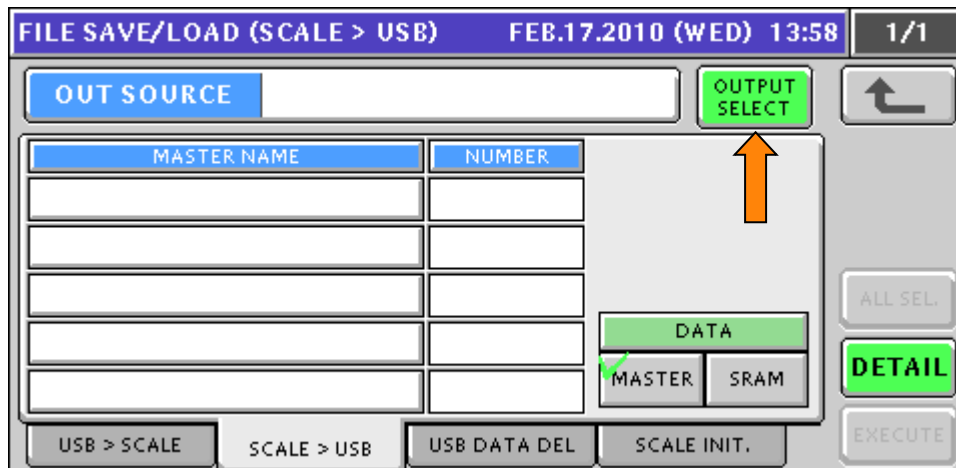

Figure 2. Memory Output to USB Memory Stick
- g. Press the **SCALE > USB** tab. See Figure 2.